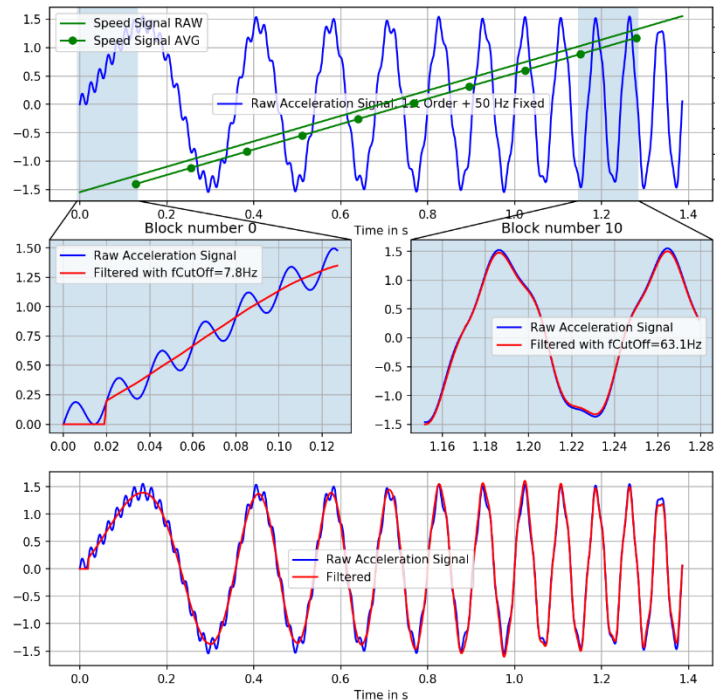

Figure 7-2: Impact of the anti-aliasing filter to the raw signal
- To avoid aliasing during the FFT explained in the following below, the raw signal will be filtered with an adaptive anti-aliasing filter (lowpass filter) (see section Figure 7-2).